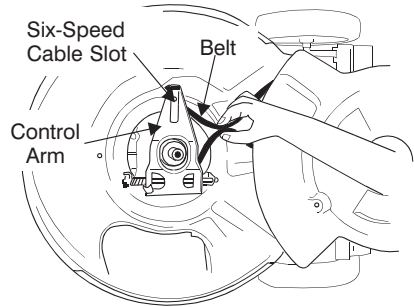

Figure 23
12. Squeeze the belt together and push belt forward. Press the control arm inward towards the deck and remove the six speed cable from the slot. See Figure 23.